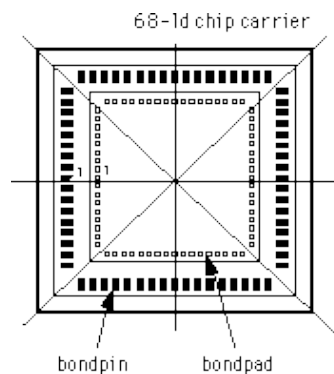

Fig. 4: Partitioning of the bondpads
6. To determine the right position of the bondpads, it is advised to draw the chip together with the bondpins of the package. The chip has to be partitioned in equal segments (4 to 8). Bondpads and bondpins have to be located in the same segment (figure 4).